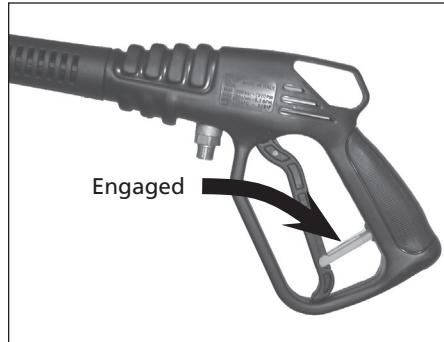

**Figure 6 – Attach lance to gun**
5. Attach the lance to the gun (see Figure 6).